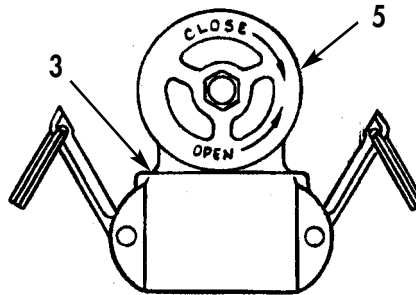
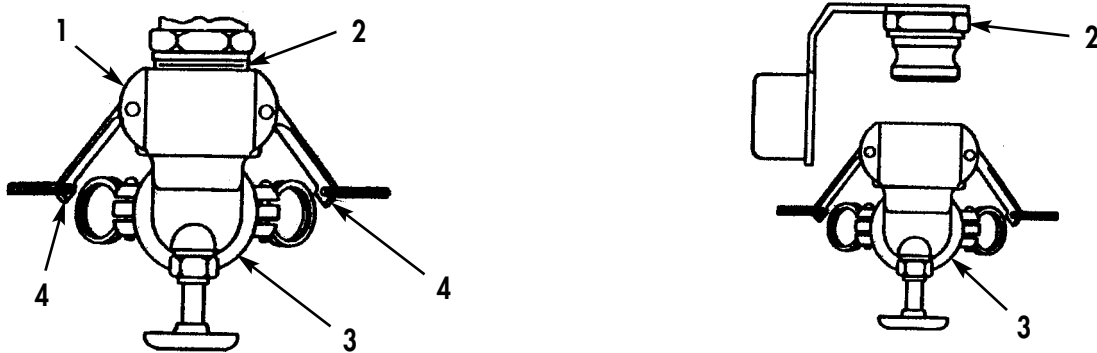
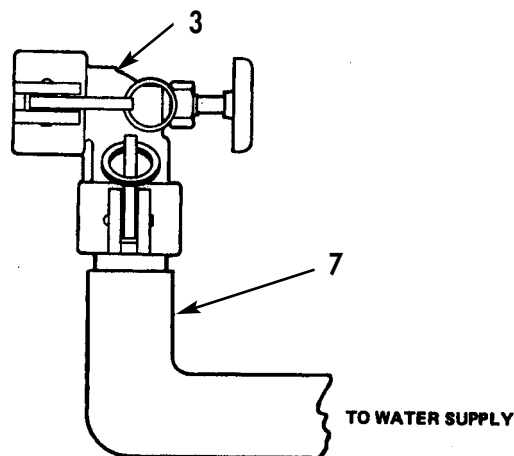

Figure 2. Collapse Drum.
Figure 4. Unlock and Remove Coupler Valve.
Figure 5. Locking Valve to Filler Hose.
- c. Turn handwheel (Figure 2, Item 5) counterclockwise all the way to completely open coupler valve (Figure 2, Item 3).
- e. When drum is fully collapsed, close coupler valve (Figure 2, Item 3) by turning handwheel (Figure 2, Item 5) clockwise, then unlock and remove coupler valve (Figure 5, Item 3) from adapter assembly (Figure 4, Item 2) by pulling out cam arms (Figure 4, Item 4).
4. Connect and lock coupler valve (Figure 5, Item 3) to drinking water supply hose (Figure 5, Item 7) as shown.